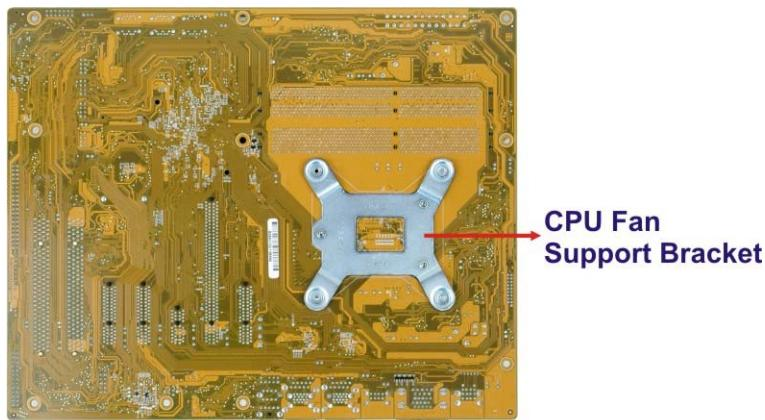

Figure 4-5: Cooling Kit Support Bracket
Step 1: A cooling kit bracket is pre-installed on the rear of the motherboard. See **Figure 4-5.**